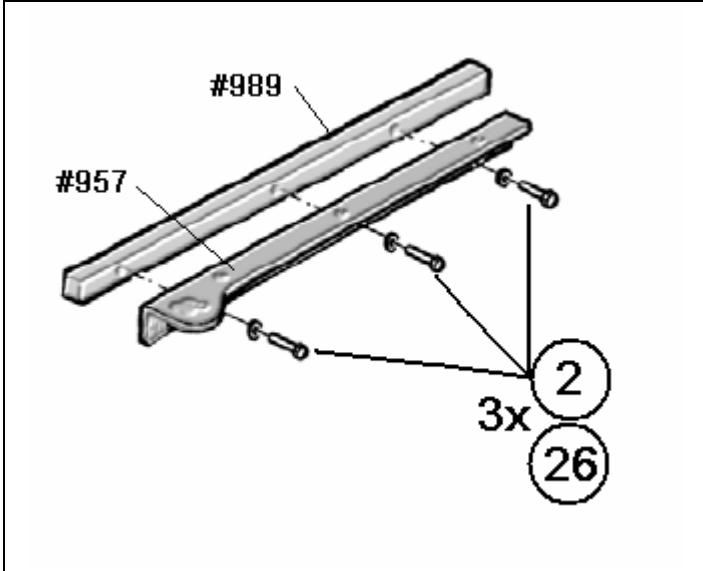

Figure 5-47. Windscreen Bars and Brackets Installation - Left Side (3 of 4).
16. Repeat Steps 1 through 4 above for the left side using Figures 5-47 and 5-58 for reference.